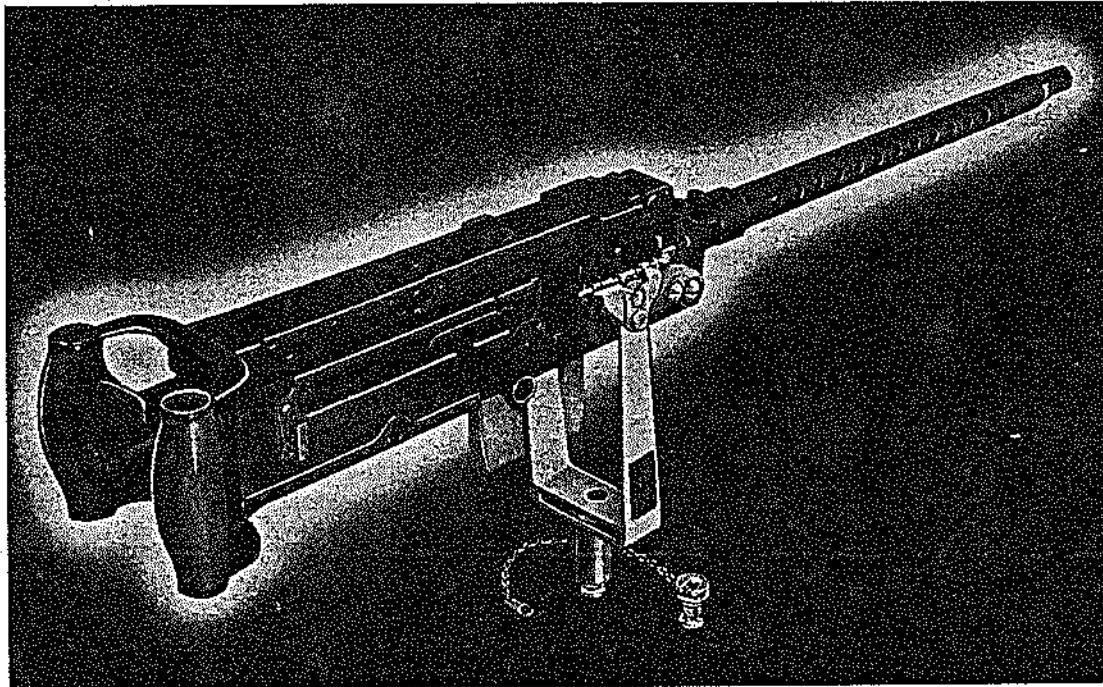
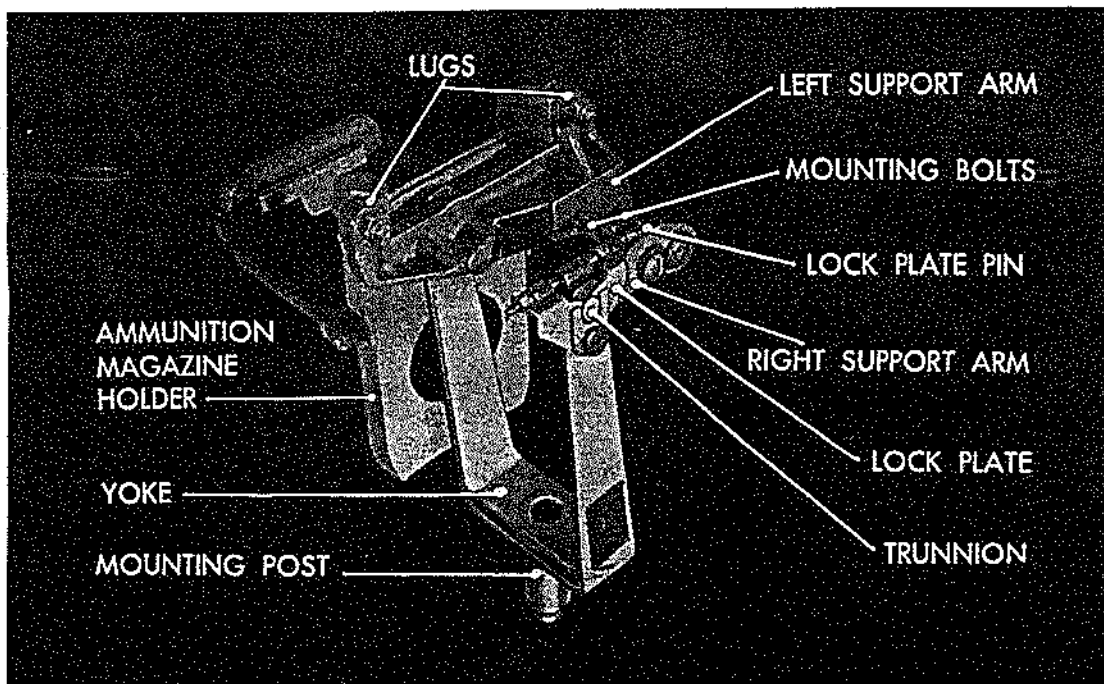

Figure 18.—Gun Mount Adapter Mk 9 (Flexible, Single) with Caliber .30 BAM Gun
Figure 19.—Gun Mount Adapter Mk 9 Alone
23. The Gun Mount Adapter Mk 9, shown in Fig. 19, is a simple, flexible, yoke-suspension type adapter. It mounts a single caliber .30 BAM gun with spade hand grips, illustrated in Fig. 18. This adapter is used on aircraft types VPB, VOS, VSO, and VTB. Its weight is 4.3 lb., and its dimensions are 6.0 in. x 9.5 in. x 5.3 in.